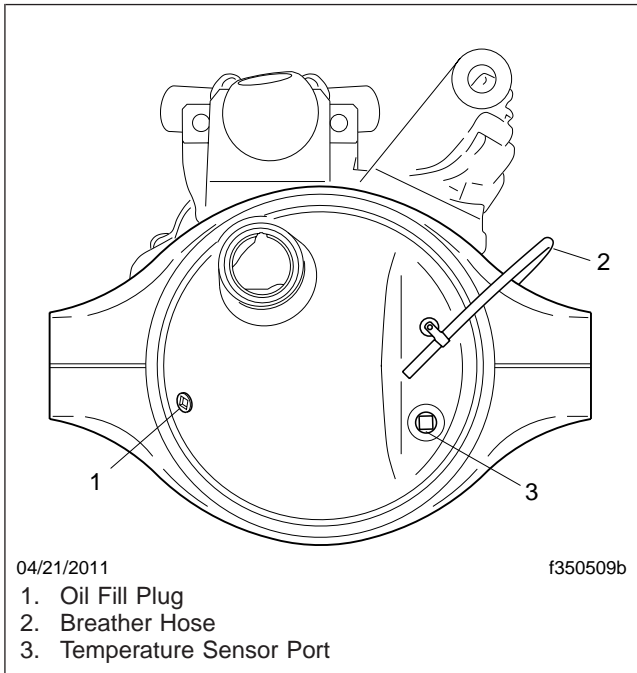
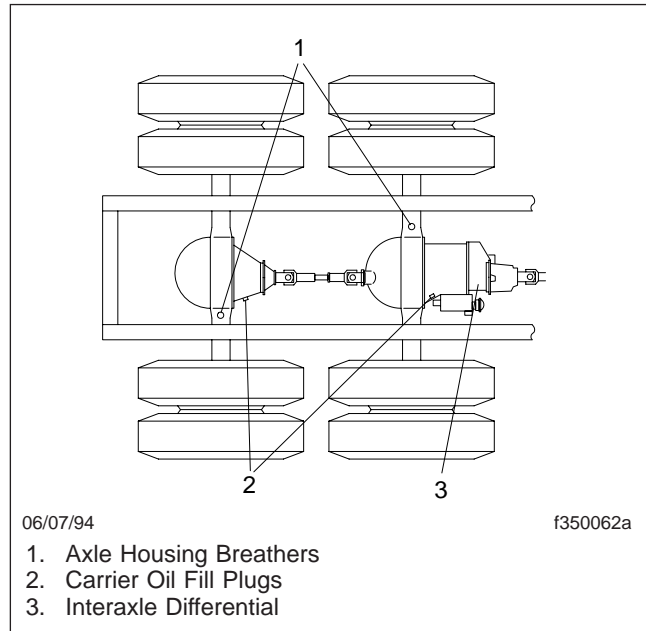
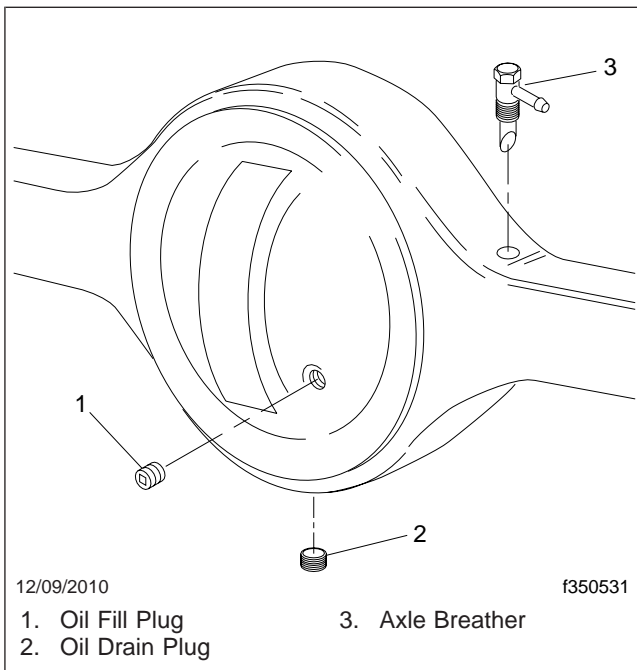

Fig. 2, Fill Hole Plug Location, Freightliner Tandem Axle (forward axle shown)
Fig. 3, Fill Hole Plug Locations, Meritor Axles
Fig. 4, Fill Hole Plug Location, Dana Spicer Axles
2. With the axle level and all wheels on the ground, clean the oil fill hole plug and the area surrounding it, then remove the fill plug. For Freightliner axles, see Fig. 2; for Meritor axles, see Fig. 3; for Dana Spicer axles, see Fig. 4.